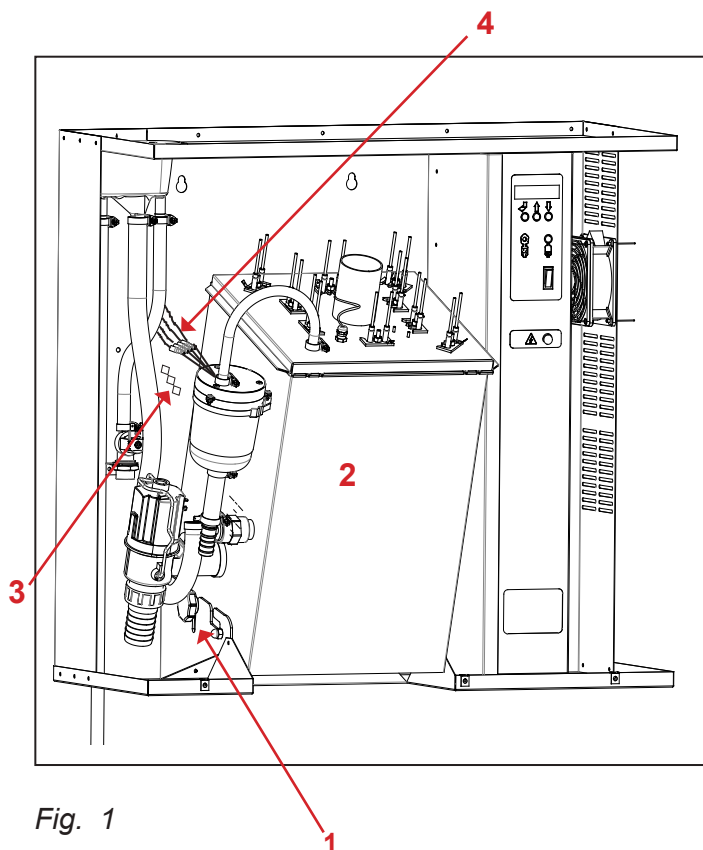

Fig. 1
- Untighten slightly the screwing knob (Fig. 1_point 1)
- Tilt the stainless steel tank up to tighten the tank holding chain (Fig. 1_points 2 & 3)
- Take the water sensor wires off the water level detector (Fig. 1_point 4)
- Set the humidifier tank back to upright position and screw up knob 1 (Fig. 1_point 1).